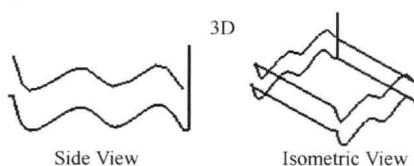

Fig.2-2 2Dimensional contours
**3Dimensional contours:** Consist of line, arcs, and splines that lie varying Z depths in the current construction plane. The depth of the toolpath must be set to “Incremental” so that it is relative to the actual depth of each point on the contour. Shown as the fig.2-2.
三维外形铣削：所含的直线、圆弧和样条曲线位于对当前构图平面 Z 深度值是变化的。刀具路径的深度必须设为“增量”方式，也就是外形上每个点的实际深度是相对的。见图 2-2。